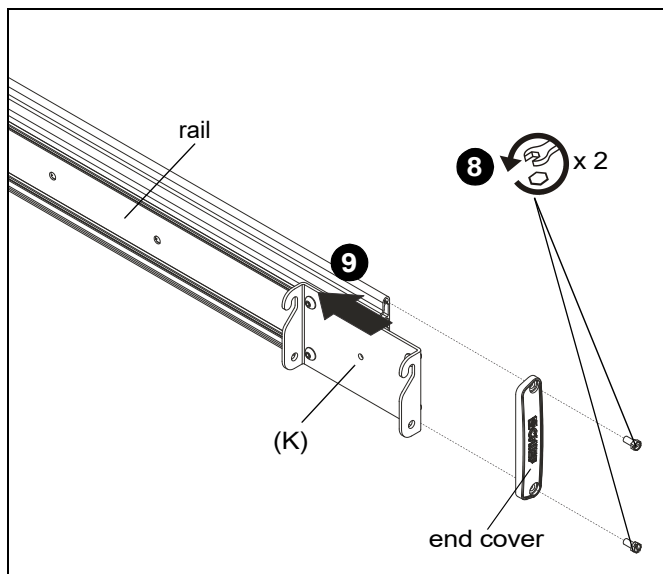

Figure 6
8. Remove end cover on one end of rail by removing two screws. (See Figure 6)
9. Slide quick connect bracket (K) onto rail and position in desired mounting location. (See Figure 6)